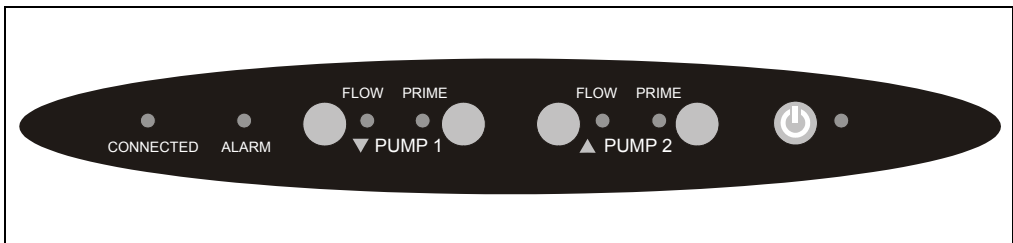
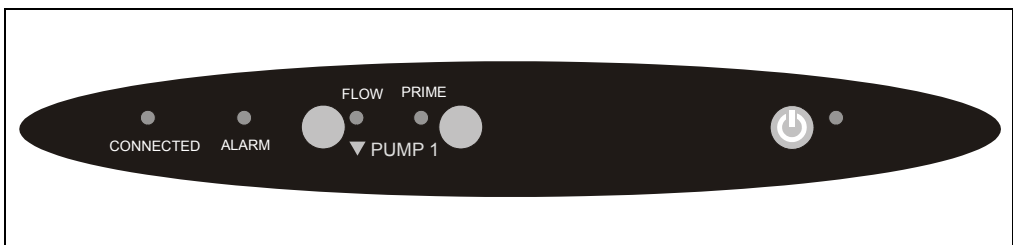

Figure 2-1. DP Status Bar
Figure 2-2. SP Status Bar
A status bar on the front of the ICS-3000 Dual Pump (DP) and ICS-3000 Single Pump (SP) includes buttons for controlling certain pump functions, as well as LEDs (light emitting diodes) that indicate the status of several pump functions (see Figure 2-1 and Figure 2-2).
NOTE For routine on/off control, use the **POWER** button on the front of the DP/SP (see Figure 2-1 and Figure 2-2). To